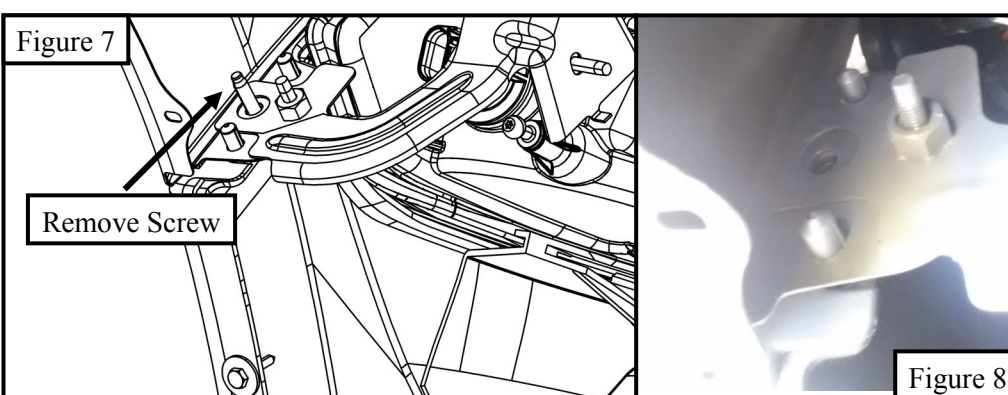

Figure 7
6. Locate screw behind inner fender plastic cover and remove it. See **Figure 7 & 8**.